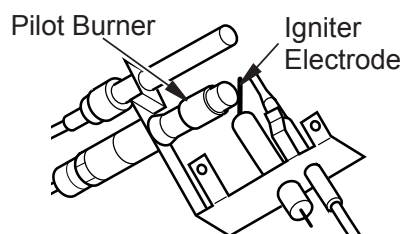

Figure 31 - Natural Gas Pilot
3. Press in and turn control knob clockwise ↷ to the OFF position (see Figure 31).
4. Wait five (5) minutes to clear out any gas. Then smell for gas, including near the floor. If you smell gas, STOP! Follow "B" in the safety information, above. If you don't smell gas, go to the next step.